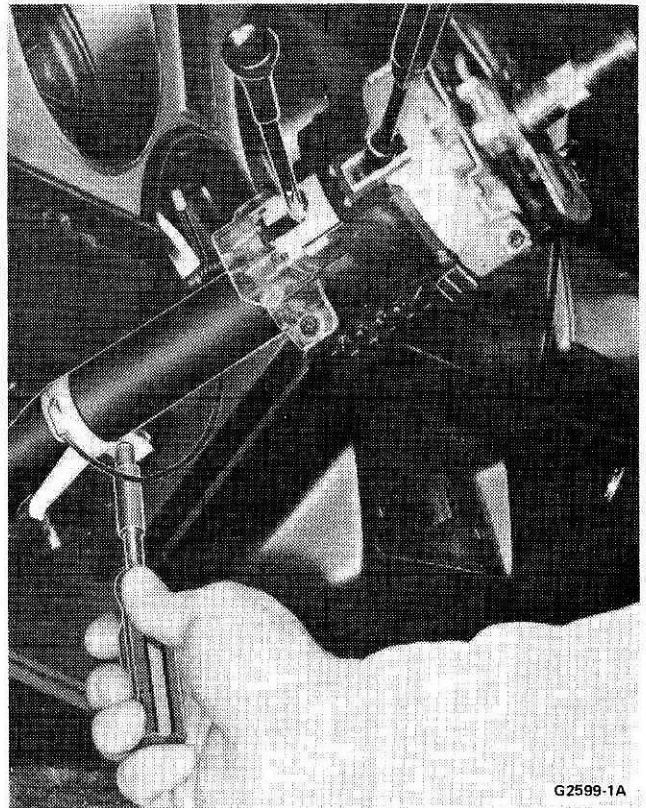

FIG. 7 Adjusting PRND21 Indicator
6. Move the shift selector into the Drive position against the drive stop on the insert plate. Rotate the PRND21 bracket located approximately midpoint on the steering column outer tube clockwise or counter-clockwise until the PRND21 pointer in the instrument cluster aligns with D. Tighten the nut on the bracket (Fig. 7).